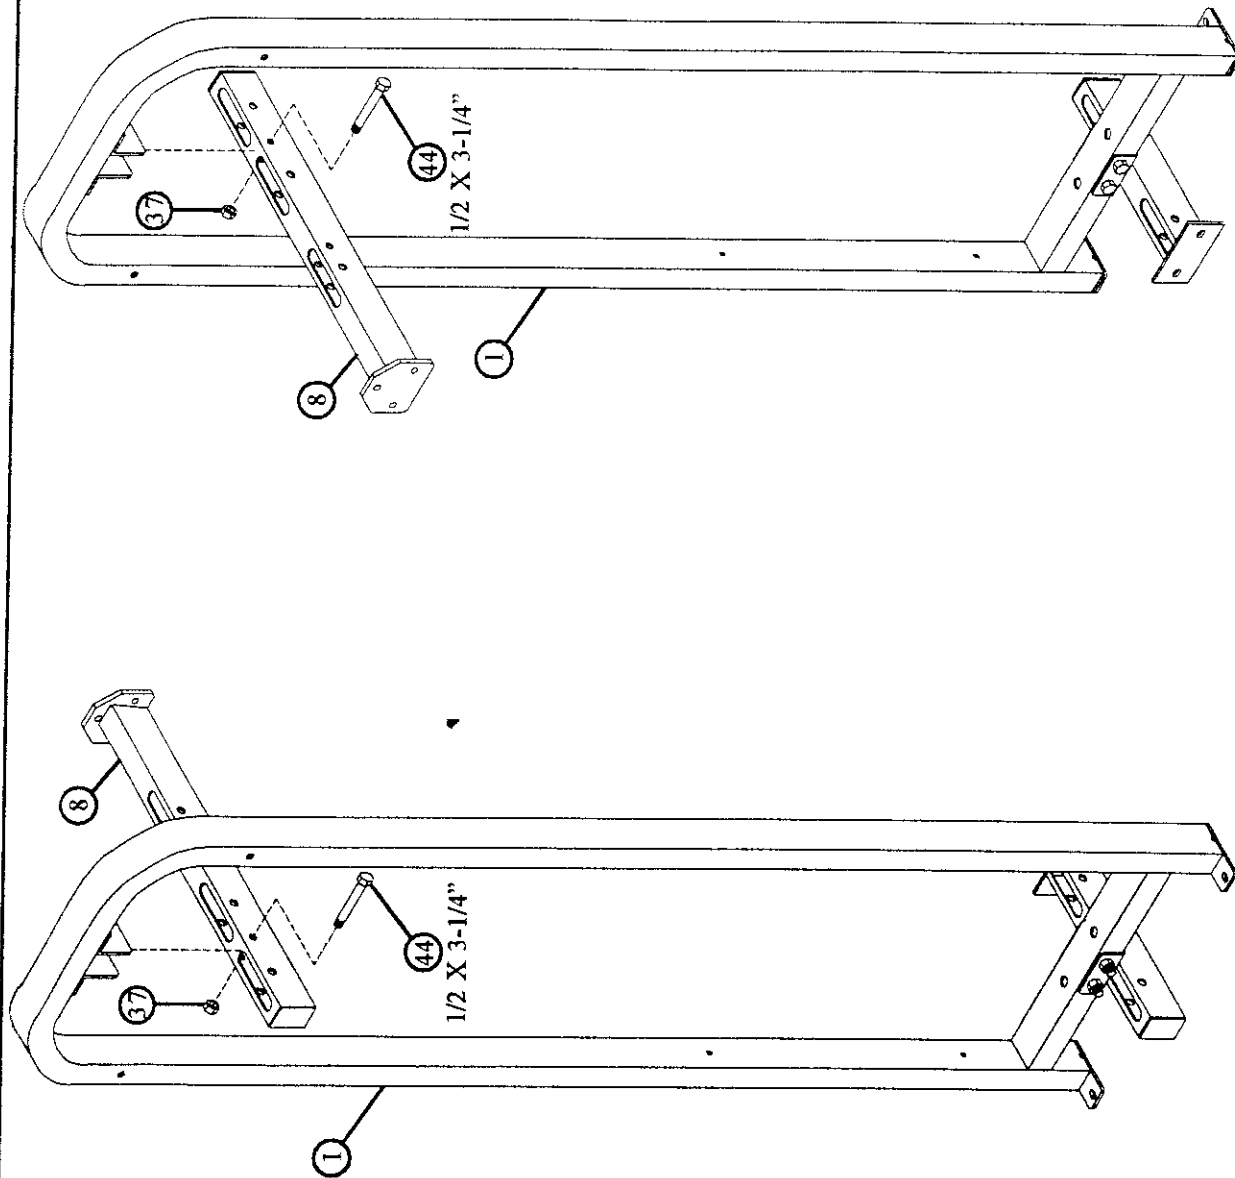

**FIGURE 1**
- **SECURELY** assemble the two LOWER PULLEY HOUSINGS (6) to the two TOWERS (1) using four 1/2 X 4" BOLTS (45) and four 1/2" LOCK NUTS (37) as shown in FIGURE 1.